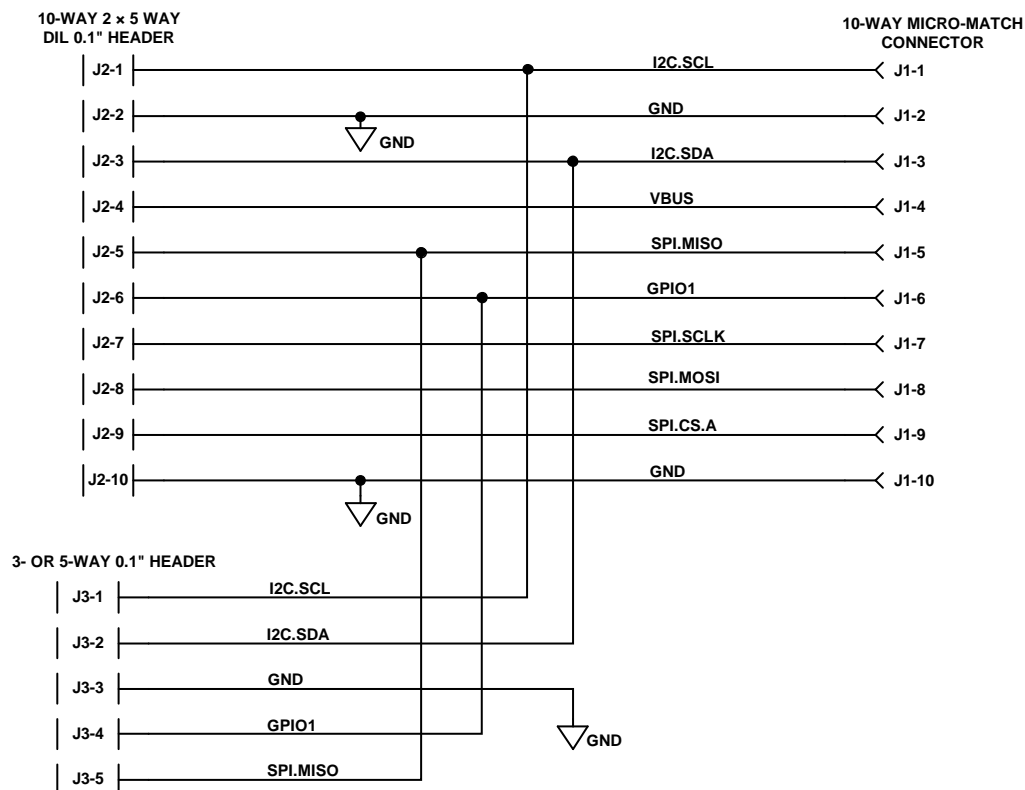

Figure 7. USB-I2C-ADPTZ and USB-I2C5W-ADPTZ—Adapter Boards
- USB-I2C-ADPTZ and USB-I2C5W-ADPTZ—adapter boards (see Figure 7).